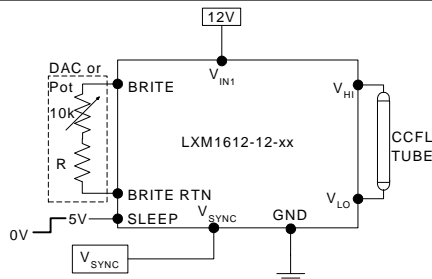
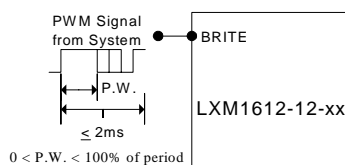

Figure 5 - Potentiometer Brightness Control
Figure 5A - PWM Brightness Control
- The brightness control may be a voltage output DAC, digital resistor or a simple 10k potentiometer. If desired, an additional series resistor with the 10k potentiometer can be used to set a higher minimum brightness setting as shown in Figure 5. A 2.5V to 5V Logic Level PWM signal from a micro-controller may also be used as shown in Figure 5A.